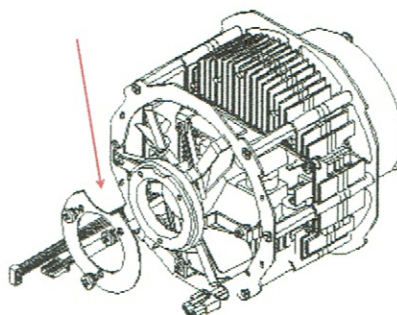

Fig.2
5. Place fEEbEE LED Engine on working bench and start loosening the three M4 screws that hold the metal ring (marked by red arrow in figure 2).